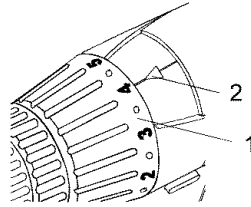

Fig. 4
1. Identify the torque settings located on the torque adjusting ring (1) (see Fig. 4).
2. Rotate adjusting ring to align the correct torque setting number with the torque indicator arrow (2). See chart below for correct torque settings.